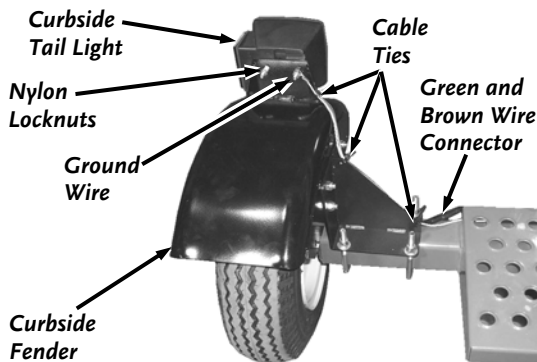

Figure 45
5. Position the Curbside Tail Light (green/brown wires) and Roadside Tail Light (yellow/brown wires) onto the Fenders and secure each with one of the Locknuts on the outside stud using a 7/16" Wrench (**Figure 45**).